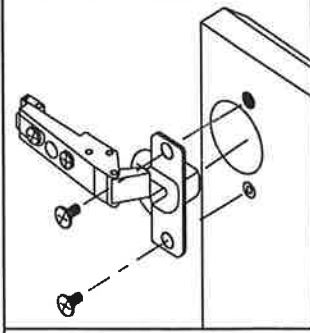

Fig. 7
1. Remove hinges and screws from hardware bag. Mount hinge unit on door as shown in Fig. 6 or Fig. 7 securing with screws provided.